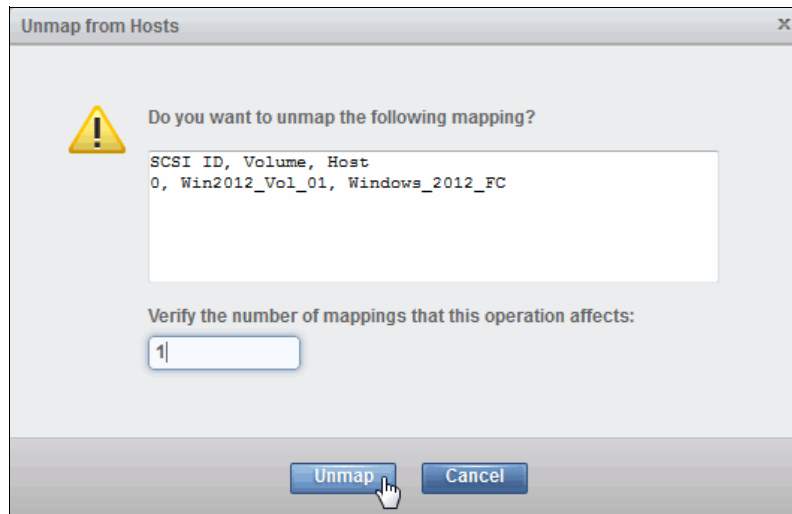

Figure 8-44 Unmapping from host (or hosts)
2. Confirm the number of mappings that are to be removed and click **Unmap**, as shown in Figure 8-44.